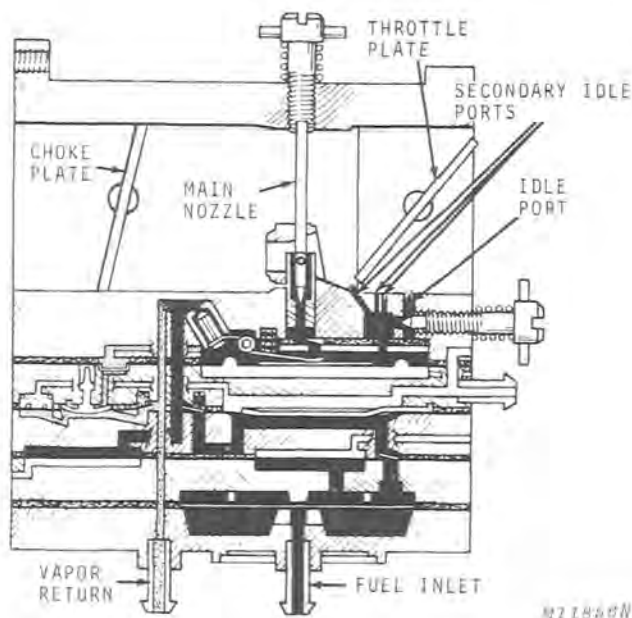

Fig. 2-Choke and Starting Operation
With the choke plate (15, Fig. 1) closed and the throttle plate (13) in intermediate position (Fig. 2), fuel is discharged out of all ports and nozzles to provide the rich mixture necessary for starting.